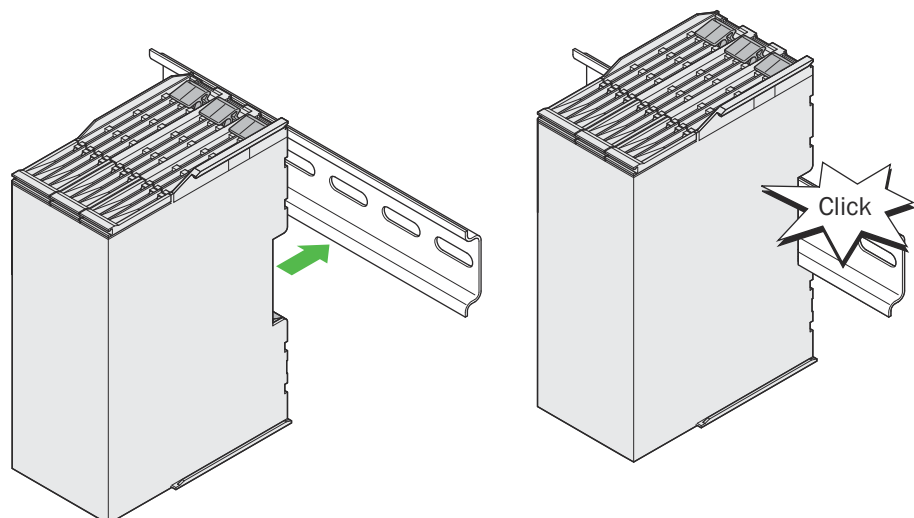

Figure 14: Main module mounting
- Mounting in a vertical orientation (on a horizontal mounting rail). figure 14